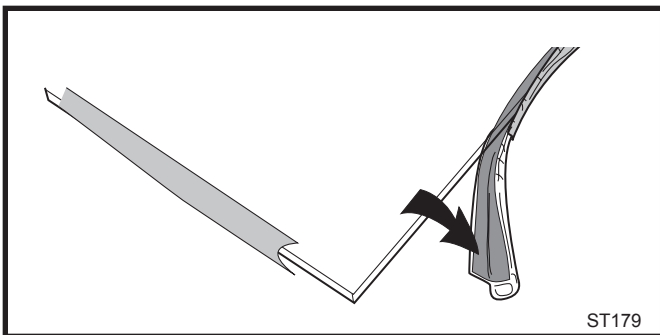

Fig. 77 Wrap the gasket material around the outside edge of the glass.
3. Starting on a long edge, remove about 6" of the protective paper strip and apply the flat adhesive face of the gasket around the outside-facing edge of the panel. Continue around the panel, applying a bout 6" at a time and being careful to not stretch the material. Do not overlap the gasket ends. (Fig. 77)